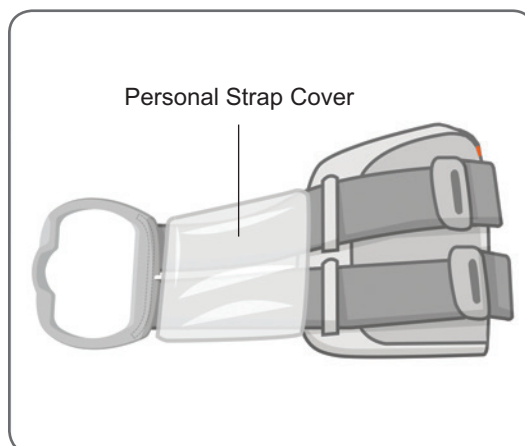

Figure 6-3: Personal Strap Cover on the Lower Leg FS Cuff
1. Slide the Personal Strap Cover over the lower leg FS Cuff Strap. See Figure 6-3.